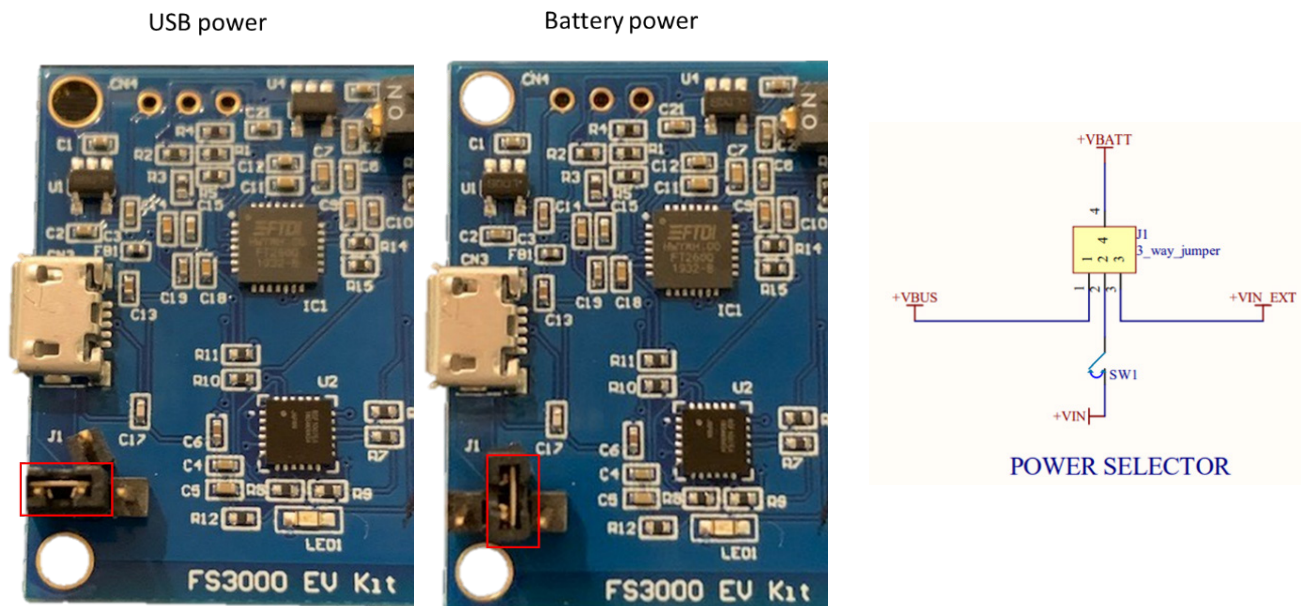

Figure 3. USB and Battery Jumper Positions
1. Select the jumper positions for the USB, battery, or external power (see Figure 3 for USB and Battery selections).